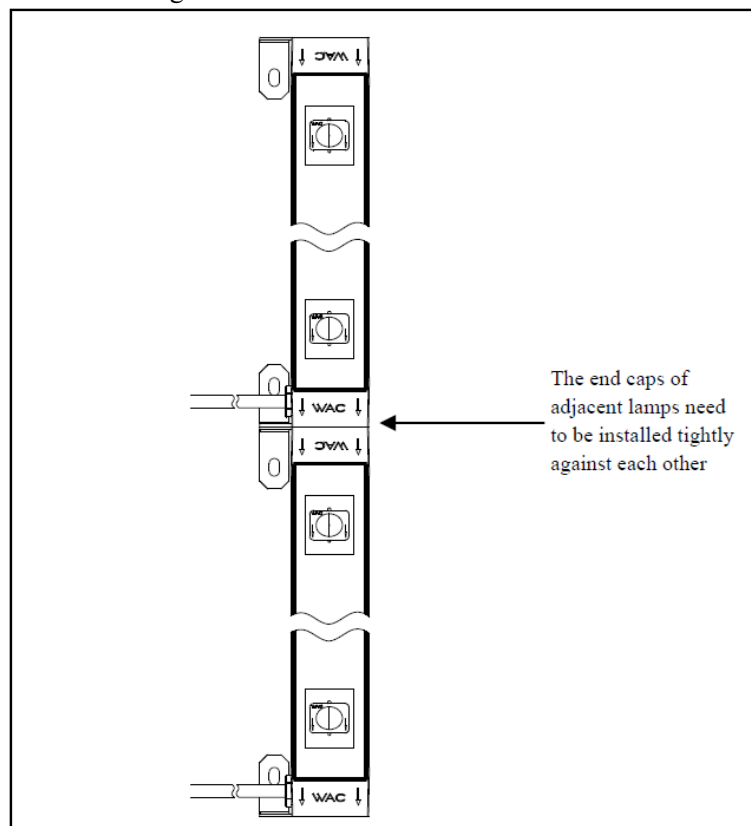

Fig.4
- When installing lighting fixtures, the end caps of two adjacent lighting fixtures need to be installed closely together, as shown in Figure 4.